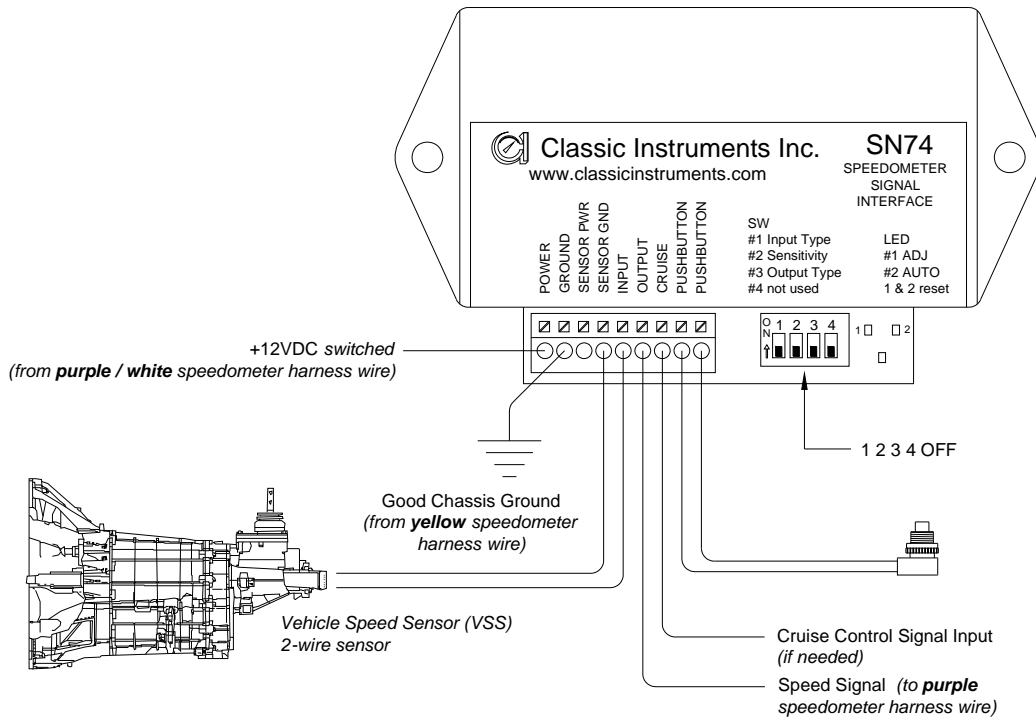

Figure 1: 2-wire VSS Speed Signal
- a. Either wire of a VSS (two-wire) sender. (*see figure 1*)
- a. Either wire of a VSS (two-wire) sender which was not used in the previous step. (*see figure 1*)